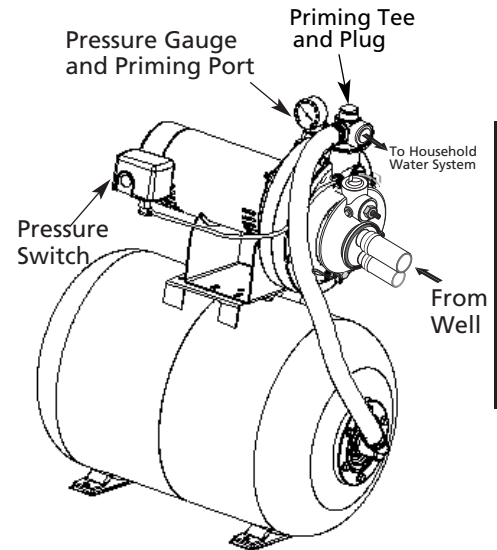

Figure 10 – Pre-charged Tank Connections
PRE-CHARGE TANK CONNECTION (FIGURE 10)
- Install a close nipple and a tee in the pump discharge port (See Figure 10). The pipe size must be at least as large as the discharge port. Run a pipe or reinforced hose from one arm of the tee to the port on the pre-charged tank.